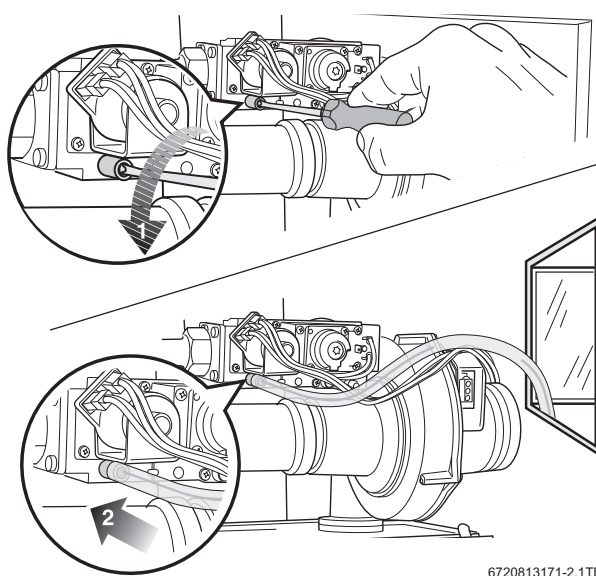

Fig. 87 Checking the gas/air ratio
- ▶ Close the gas shut-off valve when no more air is present (fig. 87).
- ▶ Use a connection tube to connect the positive port of the pressure gauge to the testing nipple for burner pressure (→ fig. 87, [2]).